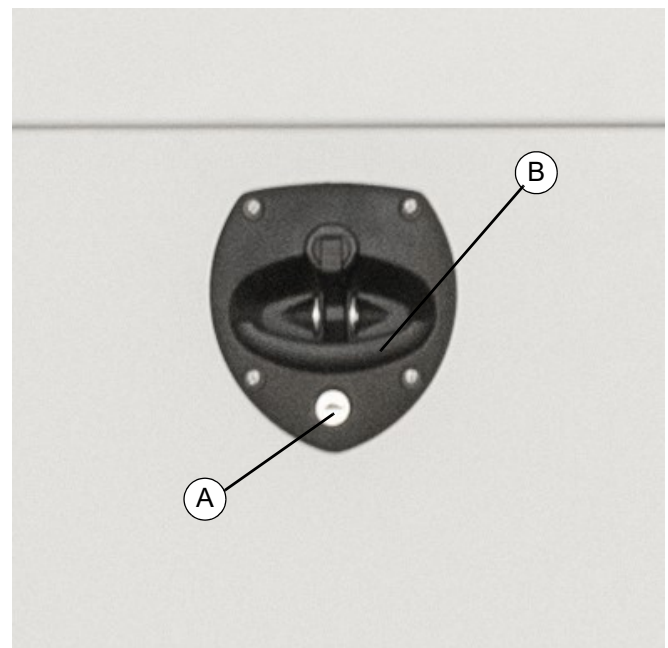

Figure 3-4. T-handle Latch
See Figure 3-4. For paddle latch assembly, unlock handle with key (A), pull T-handle (B) out and turn to unlock.